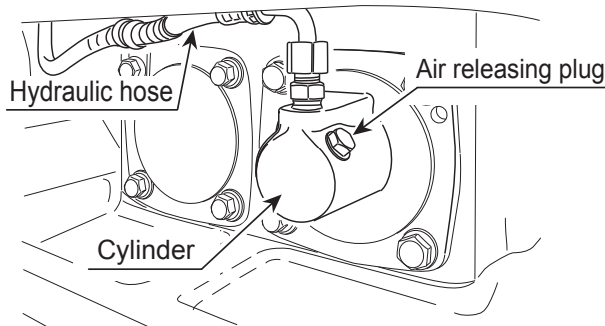

Figure 26. Removing Hydraulic Hose
3. Remove the hydraulic hose connected to the cylinder on the vibrator side (Figure 26).
9. Remove the air releasing plug on vibrator cylinder. Oil will then come out from the air releasing plug. After air bubbles stop coming out, reinsert plug. Tighten securely (Figure 26).